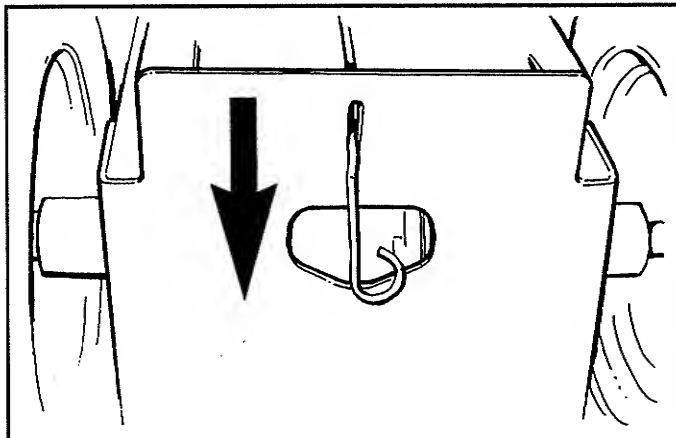

Figure 14A. Hydro Transaxle Release Lever - Push Position
3. See figure 14A. To push the tractor by hand, the release lever must be placed in the PUSH position. Pull release lever handle out and down until lever locks in fully released position.